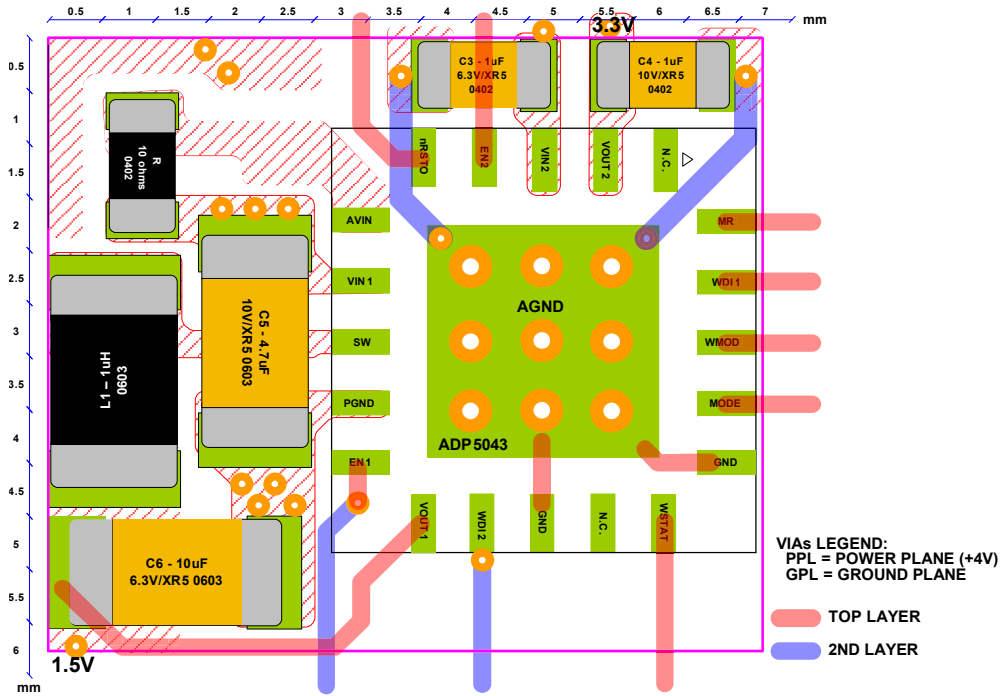

Figure 55. Layout
An important factor to consider is that θ_{JA} is based on a four-layer 4 inch × 3 inch, 2.5 oz copper, as per JEDEC standard, and real applications may use different sizes and layers. It is important to maximize the copper used to remove the heat from the device, and copper exposed to air dissipates heat better than copper used in the inner layers. The thermal pad (TP) should be connected to the ground plane with several vias as shown in Figure 55.